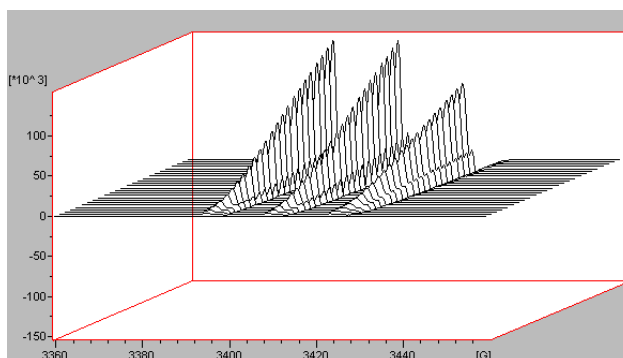

Figure 3-4 Result of multiple field sweep experiment.
- Insert your sample into the cavity.** After you have inserted your sample, click run and the acquisition will begin. Field sweeps are performed automatically at a five minute interval until 25 field sweeps have been acquired. The result of the experiment is shown in Figure 3-4.